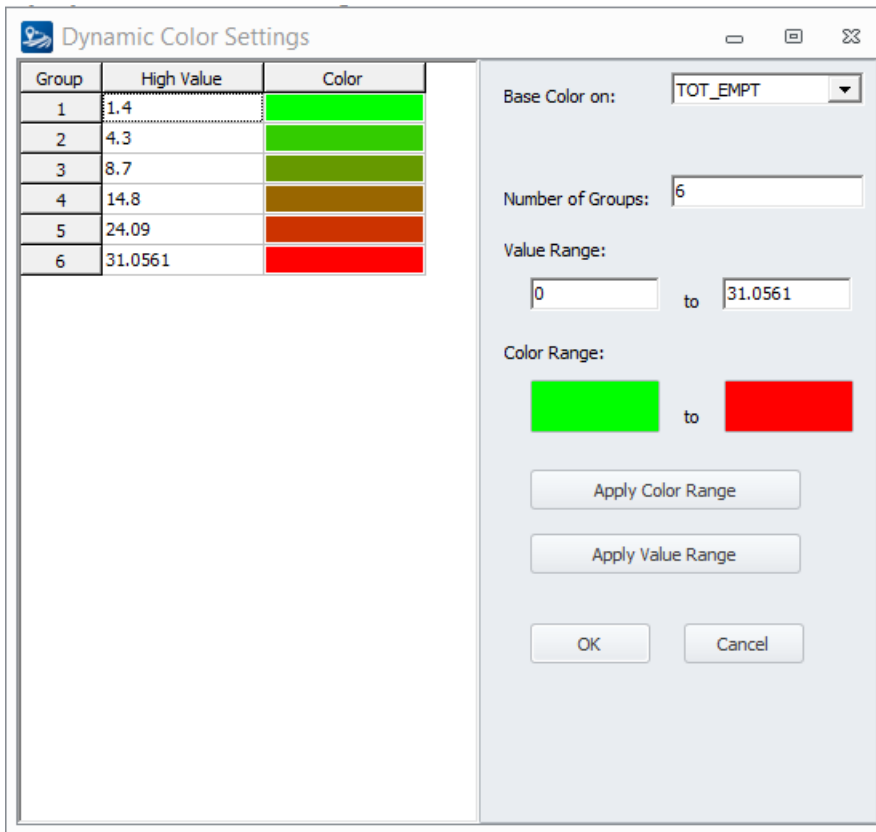

Figure 105 Colour settings
- 11) Click on "Color" and specified in the following window (see Figure 105): Number of groups (6), the Color Range clicking on colored icon (green and red). Click on Apply Color Range and Apply Value Range. Accommodate the High Value in the range of values per desired class. Click on OK.